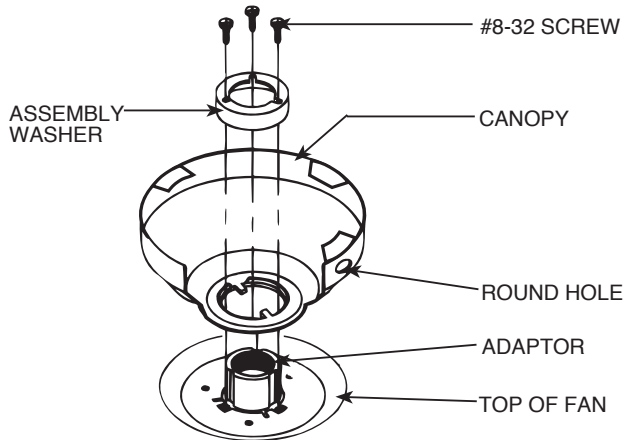

Figure 5. Low Profile Version
**A.** Place the canopy on top of the fan so the hole in the bottom of the canopy fits over the adaptor on the top of the fan. See Figure 5. Place the canopy assembly washer inside the canopy with the vertical flange of the washer resting on the inside of the canopy.
**B.** Position the (3) slots in the canopy assembly washer over the (3) threaded holes in the adaptor. See Figure 5.
**C.** Secure the canopy to the top of the fan using the (3) #8-32 x 7/8 long screws with lock washers. Make certain all screws are tight. Failure to do so could result in the fan falling.
**D.** Being careful not to scratch the canopy finish, hang the fan from the hook in the ceiling plate using the round hole in the top of the canopy. See Figures 5 and 5A.